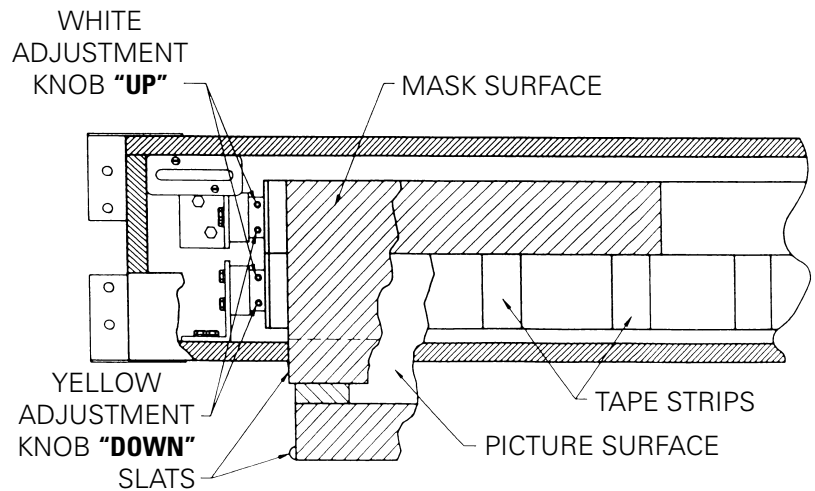

FIGURE 2
7. Carefully remove tape strips securing picture surface around roller. Slats should move freely (Fig. 2).
3. When the screen stops, turn the yellow "down" limit knob (Fig. 2) one-quarter turn counterclockwise. Test by raising picture surface approximately two feet, then lower again. Repeat until desired picture surface position is attained.
4. Turn the yellow "down" limit knob (Fig. 2) one-quarter turn clockwise. Test by raising picture surface approximately two feet, then lower again. Repeat until desired picture surface position is attained.